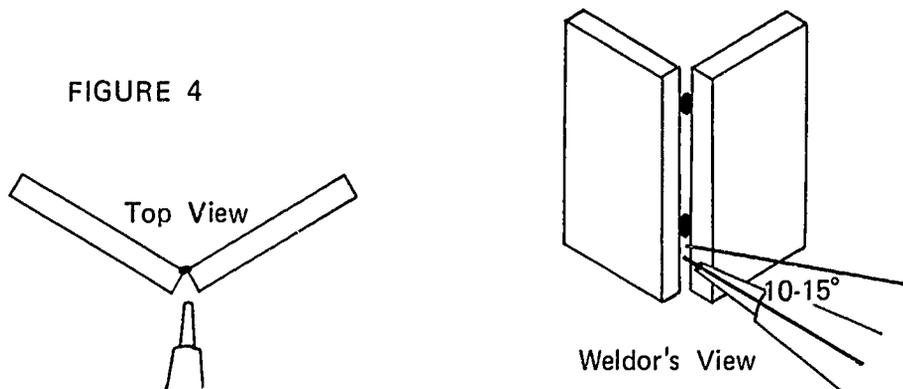

FIGURE 4
- F. Position gun straight into joint and down from horizontal $10^{\circ}-15^{\circ}$ (Figure 4)